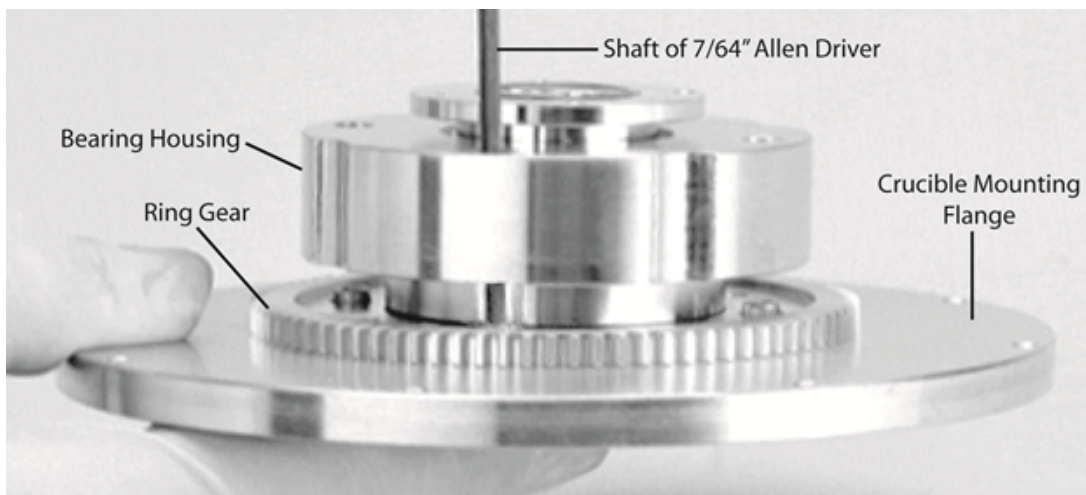

Figure 5-29. Allen driver inserted through hole in the bearing housing
Step 4: Insert the Allen driver through these holes and tighten these screws, as shown in Figure 5-29.